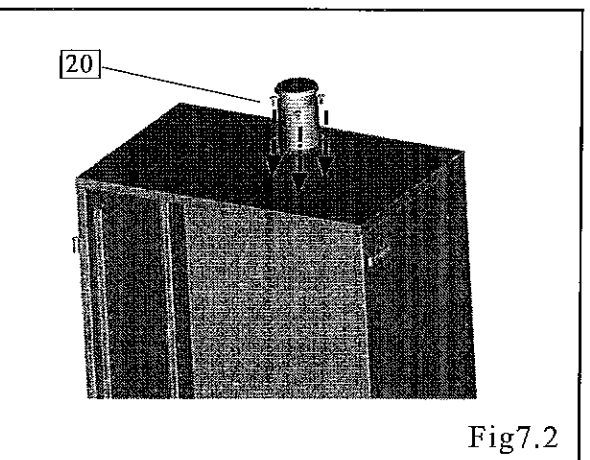

Fig7.2
Procedure: Fasten the smoker stack on the top panel with (3) 1/4-20*1/2" bolts. Fig7.2